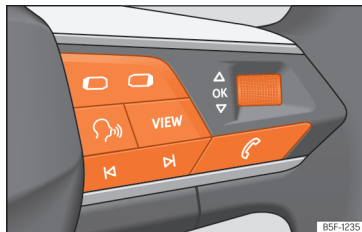

Fig. 12 Right side of multifunction steering wheel: buttons to the menus and informative indications on the instrument panel (depending on the version).
As long as a priority 1 »» page 22 warning is active, it will not be possible to access any menu. Some warnings can be confirmed and hidden with the button **OK** of the multifunction steering wheel »» Fig. 12.
- If a message or vehicle symbol is displayed, press the button **OK** »» Fig. 12; several times if necessary.